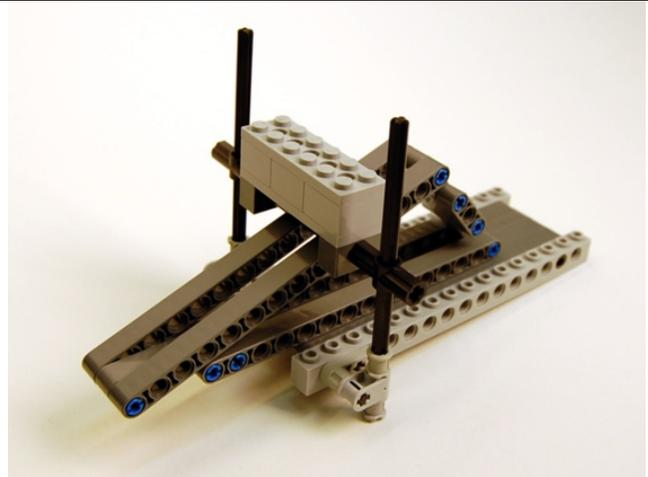

Figure 3. Long Wedge Inserted into the Test Apparatus.
3. ( ) Measure d1 and d2 on the wedge and then calculate the mechanical advantage if the longest slope of the Wedge is used to lift the load as shown in Figure 3.